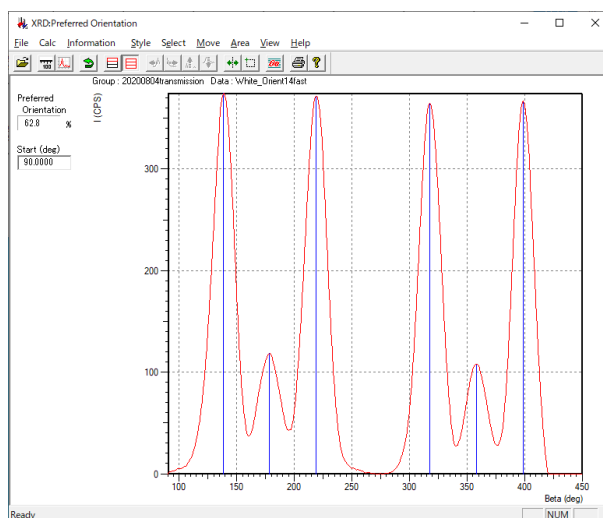

Fig. 3 Result of Degree of Orientation Calculation by Orientation Calculation Software (Peak ①)
Fig. 3 shows the result of the calculation for peak ① by the orientation calculation software. Table 4 summarizes the results of the degree of orientation calculations for peaks ① to ④ by the same method.